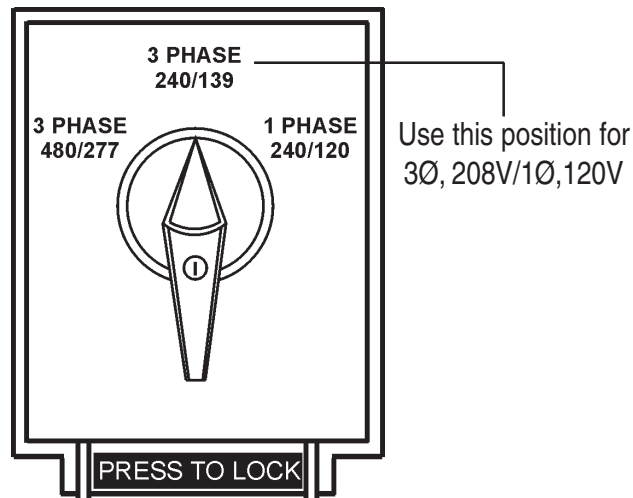
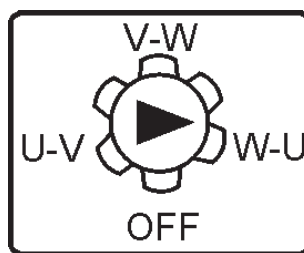
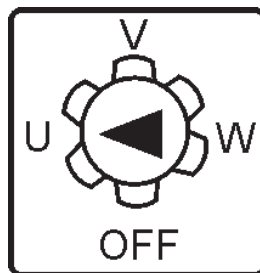

Figure 15. Voltage Selector Switch 240/139V Three Phase Position (for 3Ø, 208V, 120V voltage)
Figure 16. AC Voltmeter Change-Over Switch
Figure 18. AC Ammeter Change-Over Switch
A wide range of voltages are available to supply voltage for many different applications. Voltages are selected by using the **voltage selector** switch (Figure 15). To obtain some of the voltages as listed in Table 6 (see below) will require a fine adjustment using the **voltage regulator (VR) control knob** located on the control panel.
When the Voltage selector switch is in the 3Ø,240/139V position (See Figure 15), place the **AC Voltmeter Change-Over Switch** (Figure 16) to the W-U position and the **AC Ammeter Change-Over Switch** (Figure 18) to the U or W position to read the output on the selected leg.